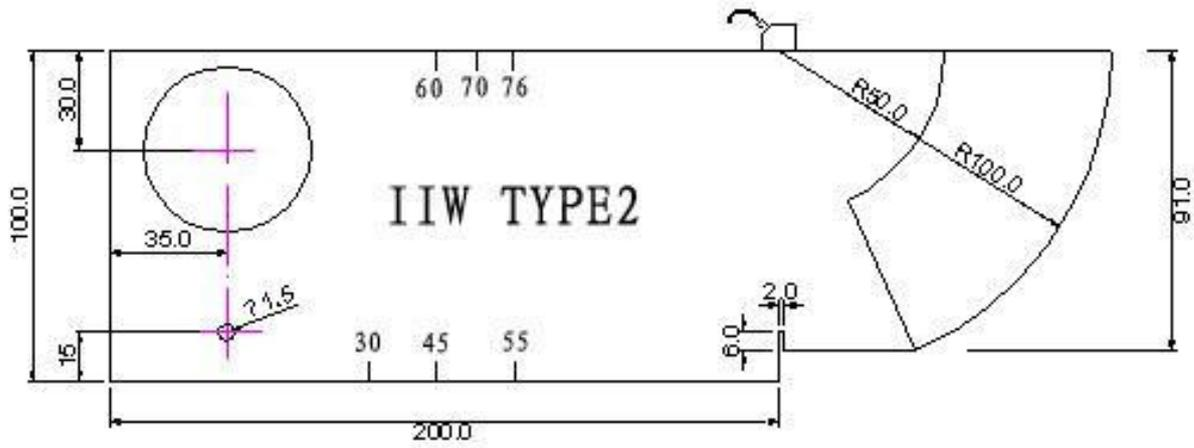

Fig.4.1 50/100 echo
- (1) Select the CABT menu in group Auto C, by you can see 50/100 echo, then put your probe as fig4.1. Try to find the highest echo of 100, then press twice, the zero point and sound speed of material has been calibrated. then press , you will see x (front edge)=XXX.XXmm, please read it and input it.